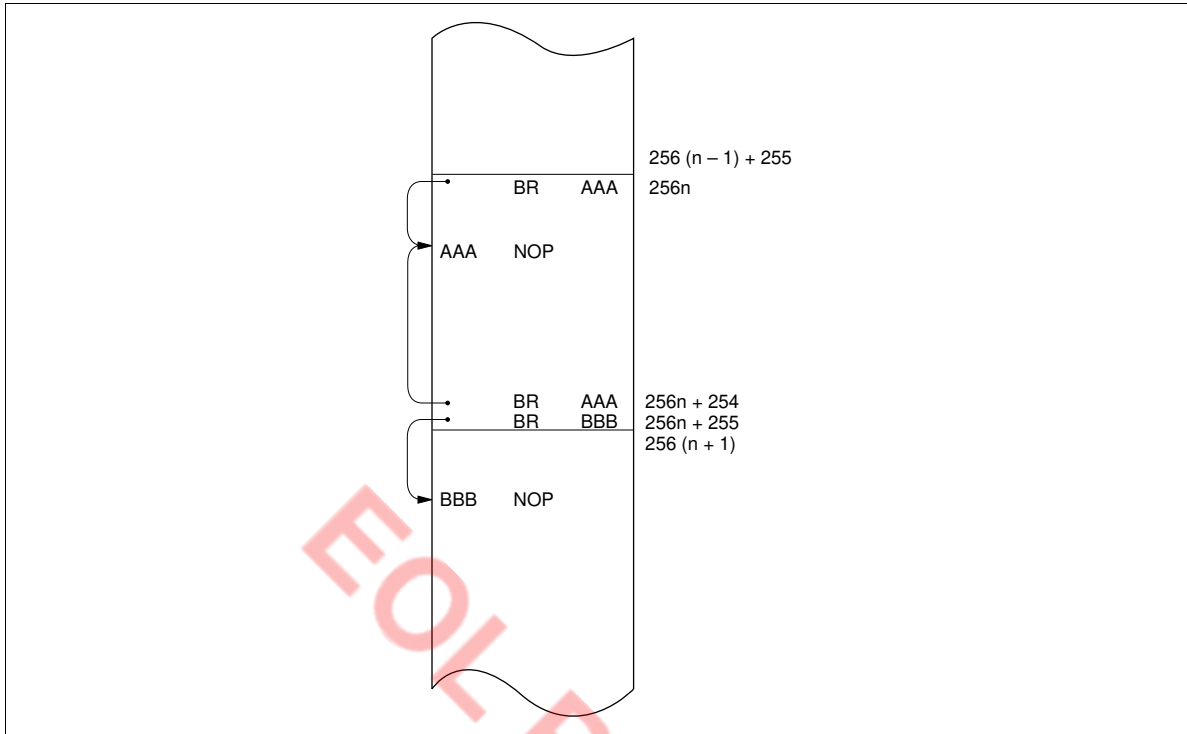

Figure 67 Branching when the Branch Destination is on a Page Boundary
**Current Page Addressing Mode:** The MCU has 64 pages of ROM with 256 words per page. A program can branch to any address in the current page by executing the BR instruction. This instruction replaces the eight low-order bits of the program counter ( $PC_7$ – $PC_0$ ) with eight-bit immediate data. If the BR instruction is on a page boundary (address  $256n + 255$ ), executing that instruction transfers the PC contents to the next physical page, as shown in figure 67. This means that the execution of the BR instruction on a page boundary will make the program branch to the next page.